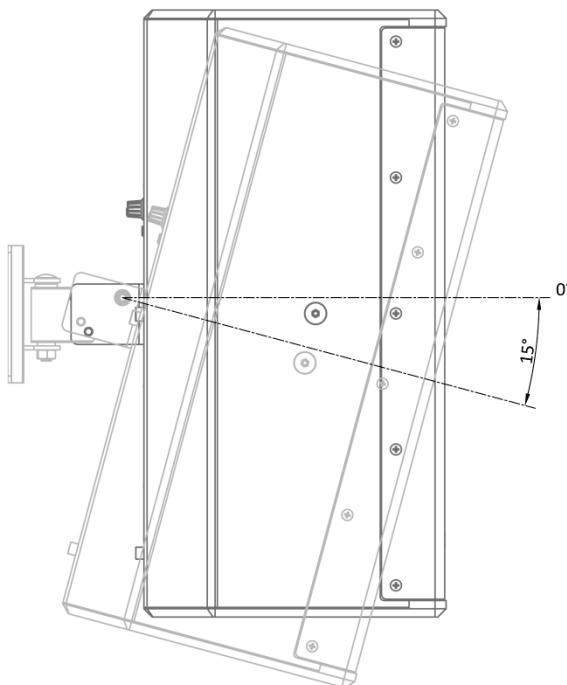

FIG.10
- FIG.10 and FIG11 show the possible horizontal swivel combinations: FIG.10 is for the speaker mounted vertically or FIG.11 for speaker mounted horizontally.